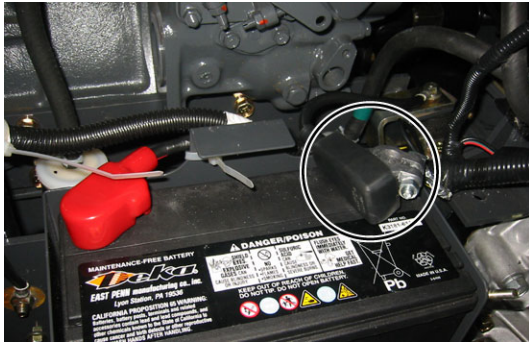

Fig. 1
1. Remove the battery cover and disconnect the negative battery cable. (Fig. 1)